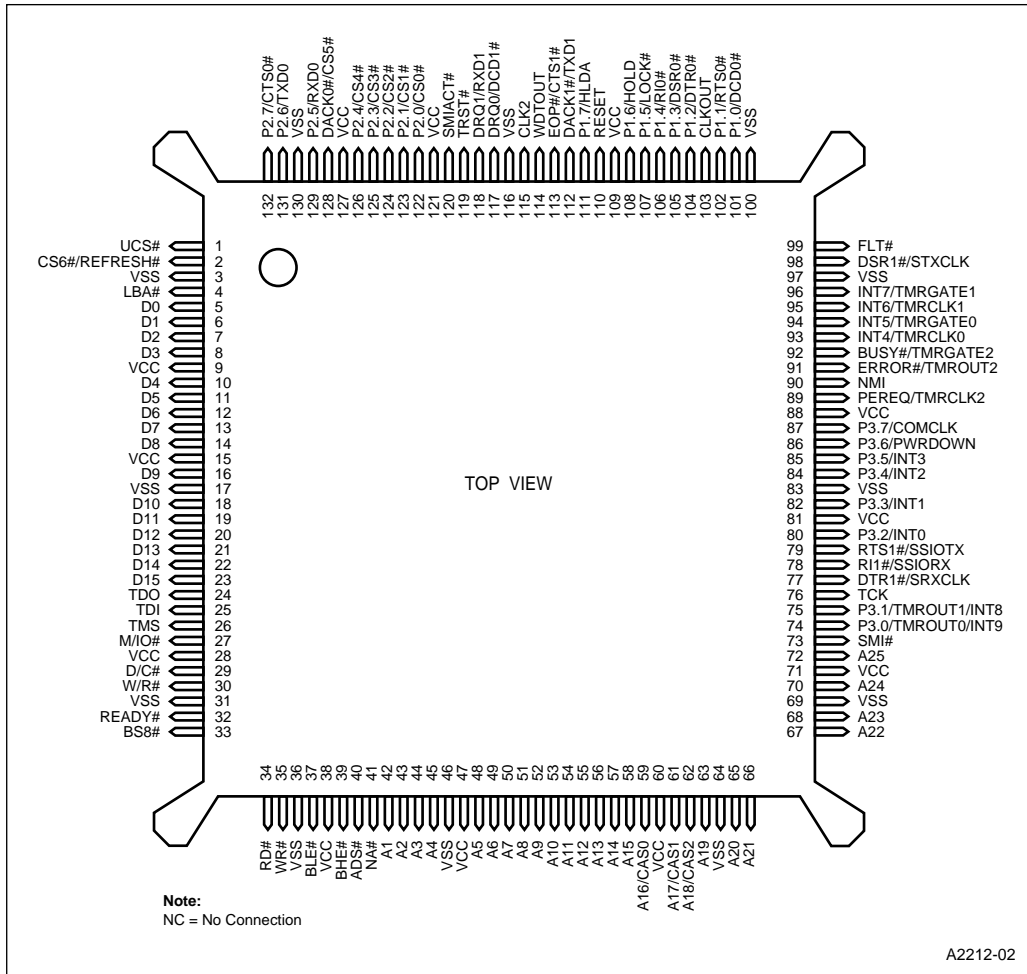

Figure 2. Intel386™ EX Embedded Processor 132-Pin PQFP Pin Assignment
- Figure 2. Intel386™ EX Embedded Processor 132-Pin PQFP Pin Assignment 2